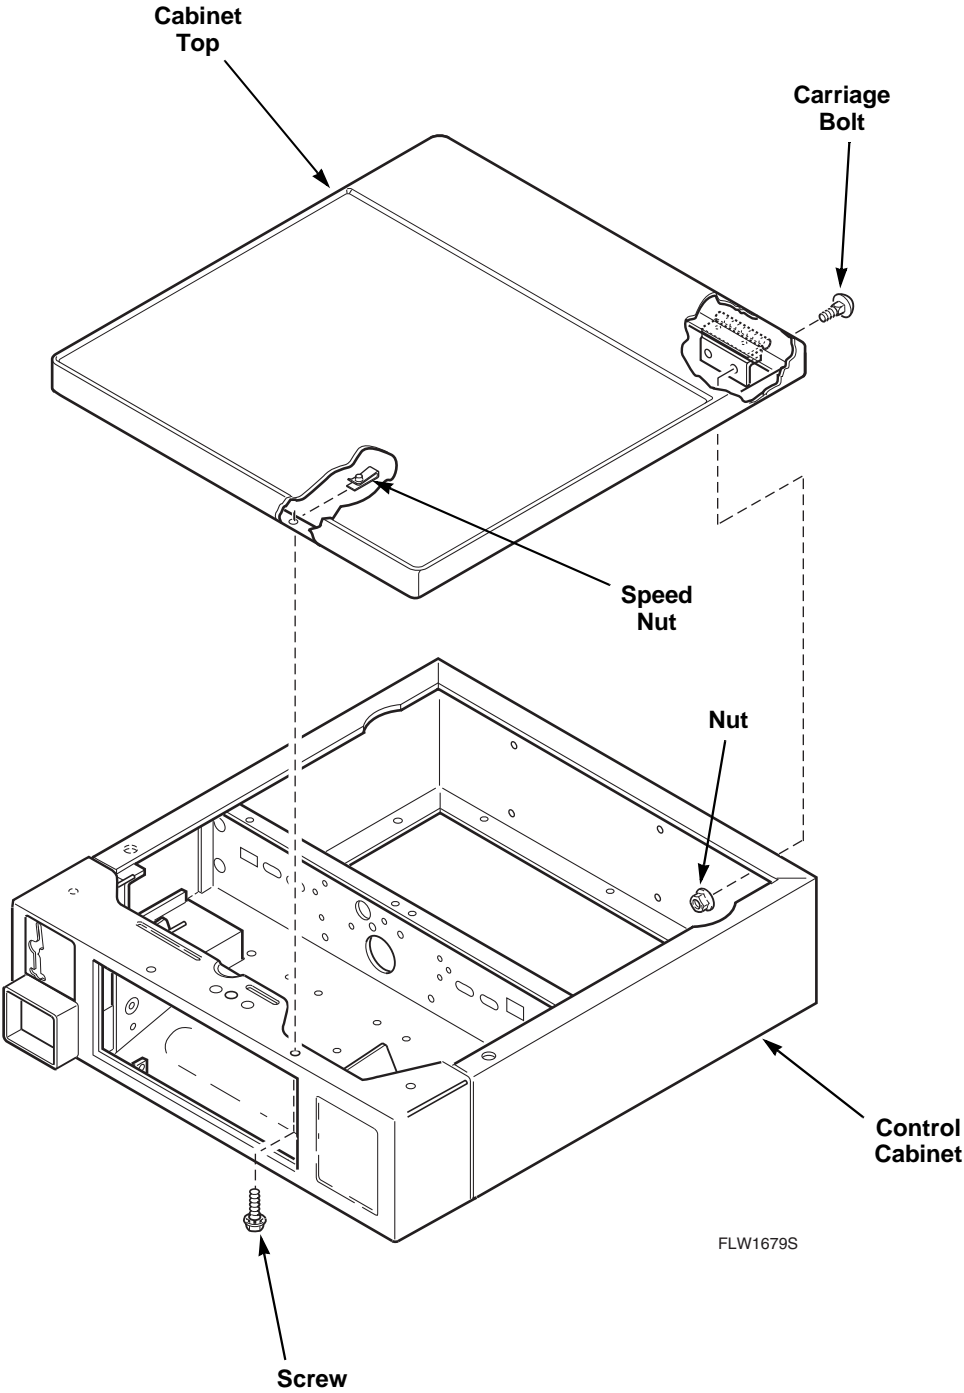

Figure 24
- Remove cabinet top from washer by removing nuts and carriage bolts holding cabinet top and hinges to control cabinet. Refer to *Figure 24*.